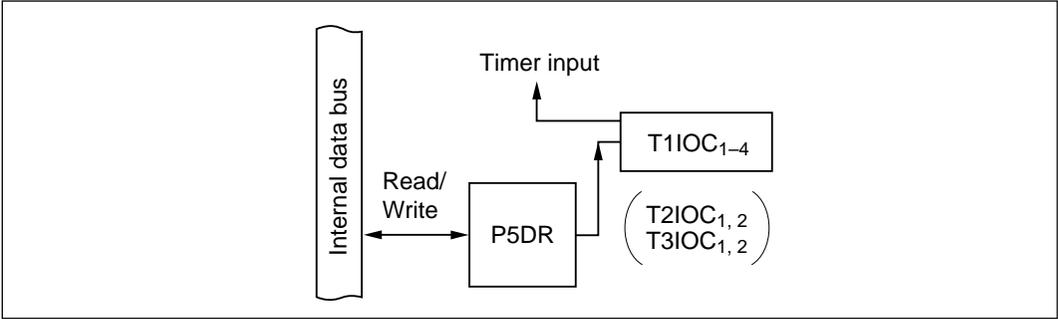

Figure 10-32 Input Capture Combined with General-Purpose Output (Modes 1 to 7)
(4) **Timer Input Combined with General-Purpose Output (Modes 1 to 7):** Figure 10-32 shows a block diagram illustrating the input capture function when combined with general-purpose output. Table 10-25 indicates register read/write data. An input capture pin can also function as an output port, in which case the output value is input to the timer.